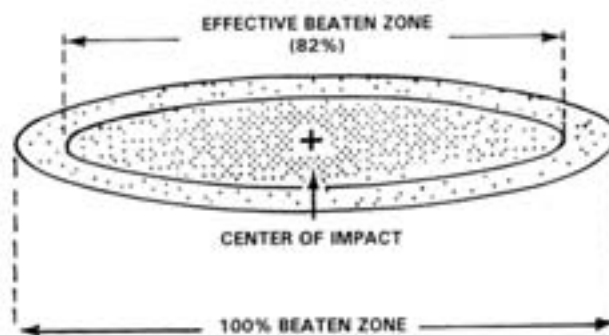

Figure 6-3. Effective Beaten Zone.
a. Effect of Slope of Ground. When the cone of fire falls on level ground which is at the same height as the gun, the lengths of the beaten zone are as shown in figure 6-3. The maximum length is obtained when the slope of the ground approximates the angle
c. Center of Impact. The center of the beaten zone is called the center of impact (see figure 6-3). It has been found that 82 percent of the shots are uniformly grouped around the center of impact. These comprise the effective beaten zone. The remaining 18 percent of the shots are so scattered that they are considered to be outside of the effective beaten zone.